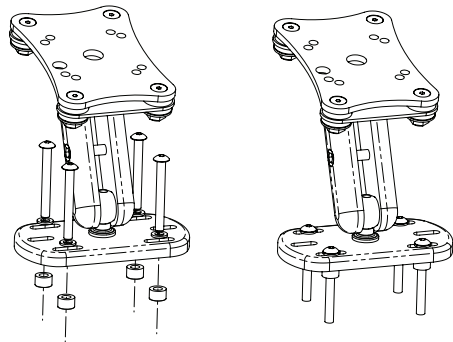
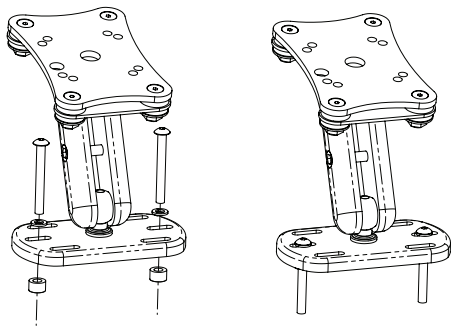

Figure 1
Figure 2
3. If the brake reservoir has 4 screws, use the *2.5mm Hex Key* to fasten the *Base Plate* to the brake reservoir cover with the appropriate length *M4 Screws*, *M4 Lock Washers*, and *Spacers* as shown in Figure 1. If the brake reservoir has 2 screws, fasten the *Base Plate* to the brake reservoir cover with the appropriate length *M4 Screws*, *M4 Lock Washers*, and *Spacers* as shown in Figure 2.